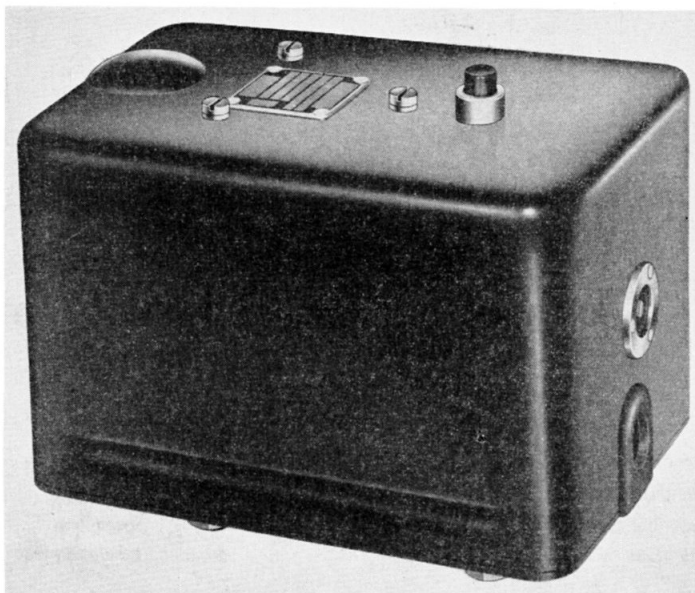

Fig. 1. General view of type 2B switch
1. The Type 2B magnetic switch (*fig. 1*), is designed for use on aircraft electrical systems where it is desired to make and break a 28 volt, 200 ampere circuit by means of a 28 volt control circuit. The unit also provides two pairs of auxiliary contacts rated at 5 amperes for 28 volt circuits.